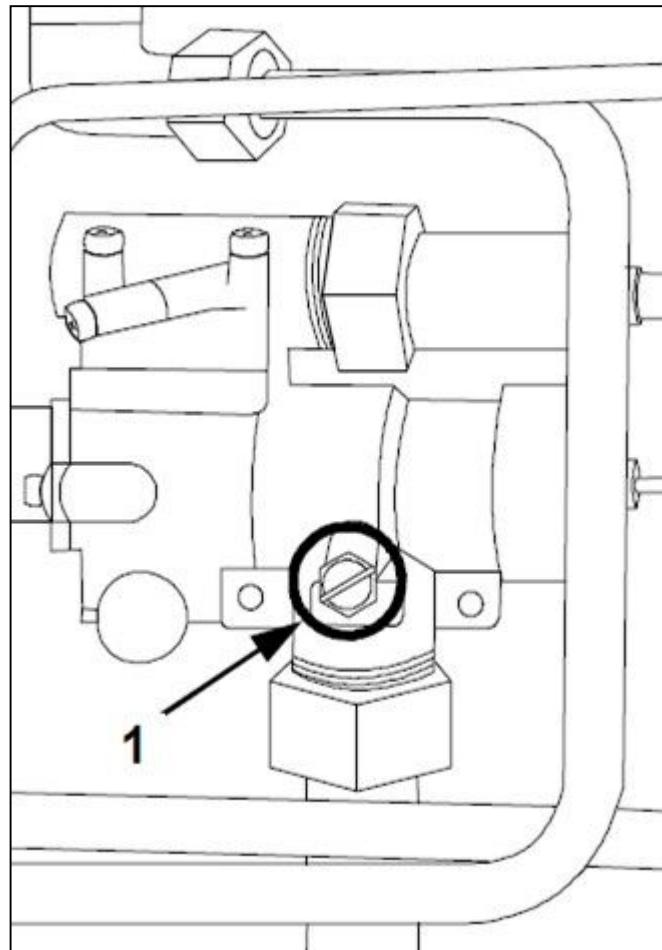

FIG.7
- 2) Remove the retaining screw from the safety valve (main valve); (FIG.7-Ref.1)
- 7) Retighten the supply pressure tap screw (FIG.7-Ref.1);